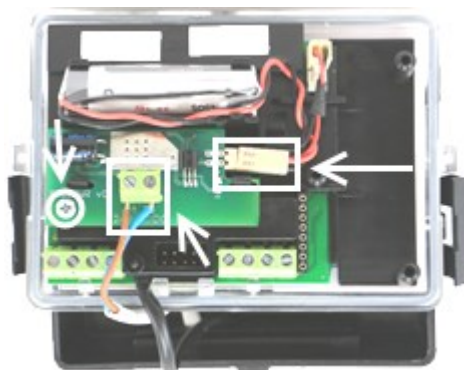

Fig. 5.6. Installation of external power supply module in the meter's calculator.
3. Install the module in place of the second battery holder (see Fig. 5.6.).
5. Disconnect the connector plug of the battery installed in the meter from the battery connector and connect it directly to the module (see Fig. 5.6.).